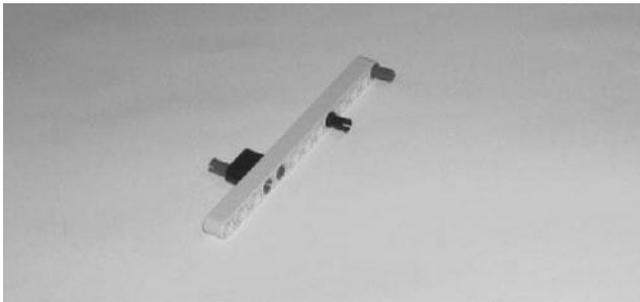

Figure 10.11
Step 4: Connect the two beams used in Step 3 together as shown in Figure 10.11.